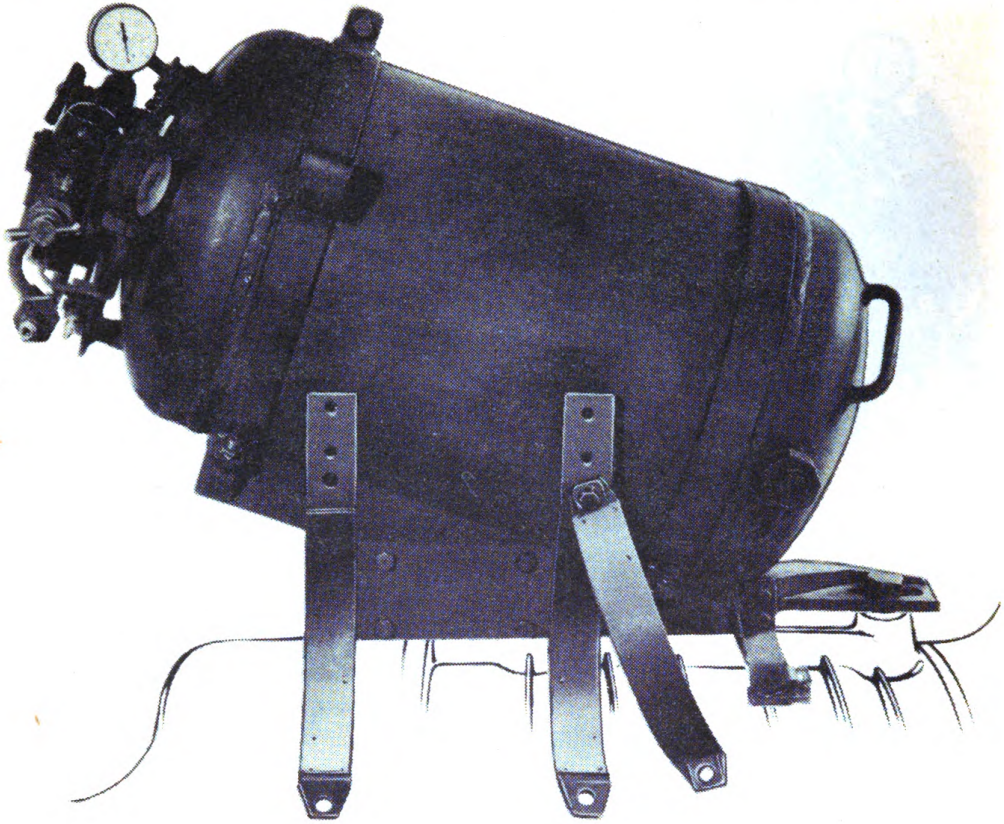

Fig. 34. Back pressure container straps and right front pressure container strap ready to receive pressure container.
(5) Place synthetic rubber washer in recess of half union on top of pressure cut-off valve.
(6) Attach high pressure line assembly (loop) to pressure cut-off valve by engaging nut of half union on assembly with male connection of half union of pressure cut-off valve. Make handtight.
e. Back pressure container straps and right front pressure container strap. Connect back pressure container strap and right front pressure container strap by inserting four stud bolts through the four holes in back pressure container strap assembly and engaging bolts to tapped holes in the side of the baseplate (fig. 34). Tighten all four stud bolts uniformly.